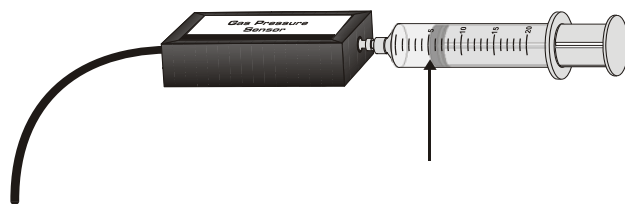

Figure 2
2. With the 20-mL syringe disconnected from the gas pressure sensor, move the piston of the syringe until the front edge of the inside black ring is positioned at the 10.0 mL mark, then attach (by twisting on) the syringe to the white port of the gas pressure sensor as shown in Figure 2. Do not over tighten.
- Move the piston so the front edge of the inside black ring is positioned at the 5.0-mL line on the syringe (see Figure 2). Hold the piston firmly in this position while the pressure value displayed on the calculator screen stabilizes. Press ENTER and the calculator will record the pressure. Then type in “5”, the gas volume on the calculator and press ENTER .